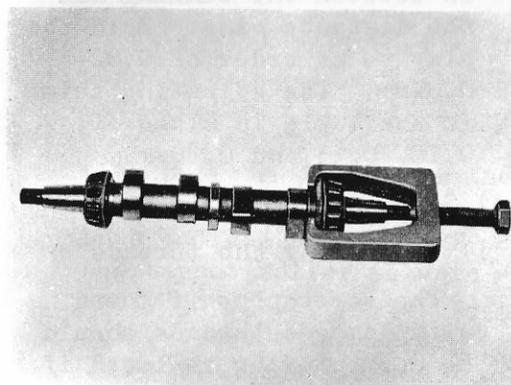

Fig. 9-45
the puller thus abutting on the receptacle. (See Fig. 9-45)
- (18) The outer lace of the bearing should be dismantled with use of the special tool (EF9087). With the tapered portion of the tool inserted in between the cover and the outer lace and with its nut fully tightened, the outer lace may be removed from the roulette side of the bolt by forcing it out with a press or hitting it out with a hammer. (See Fig. 9-45)